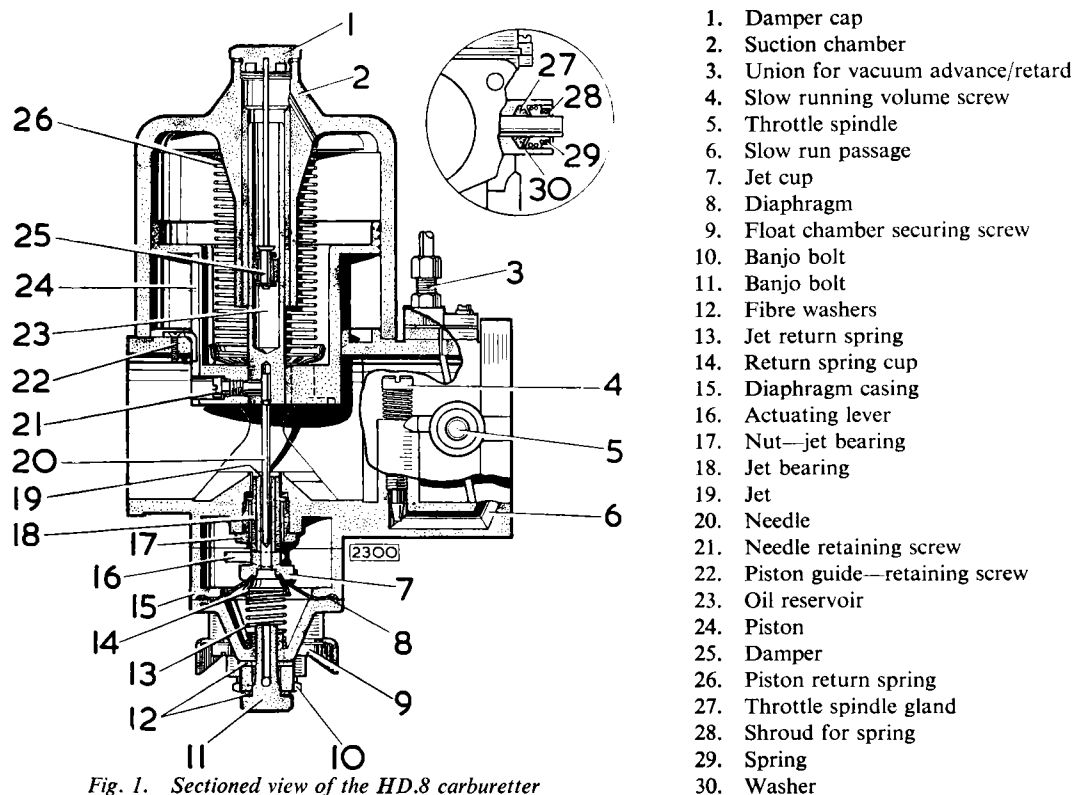

Fig. 1. Sectioned view of the HD.8 carburetter
The jet (19) (Fig. 1), which is fed through its lower end, is attached to a synthetic rubber diaphragm (8) by means of the jet cup (7) and jet return spring cup (14), the centre of the diaphragm being compressed between these two parts; at its outer edge it is held between the diaphragm casing (15) and the float chamber arm. The jet is controlled by the jet return spring (13) and the jet actuating lever (16), the latter having an external adjusting screw which limits the upward travel of the jet and thus controls the mixture adjustment; screwing it in (clockwise) enriches the mixture, and unscrewing it weakens the mixture.
Provision is made for the use of throttle spindle glands consisting of the cork gland itself (27) (Fig. 1), a dished retaining washer (30), a spring (29) and a shroud (28). This assembly should not require servicing and can only be removed by dismantling the throttle spindle and disc.
The carburetter idles on the main jet and the mixture is conducted along the passage way (6) (Fig. 1) connecting the choke space to the other side of the throttle disc.